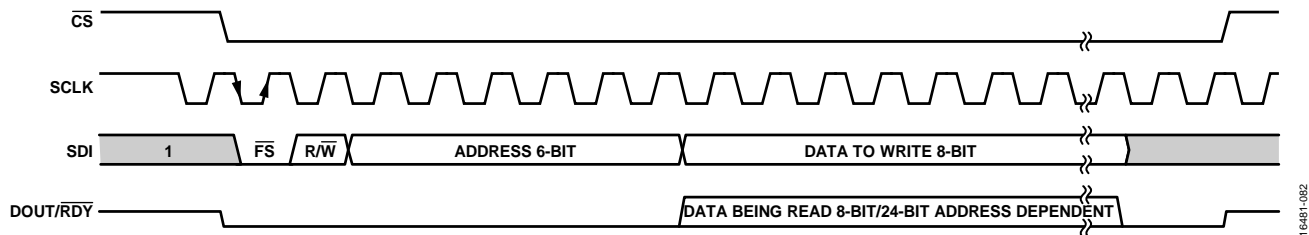

Figure 83. SPI Basic Read/Write Frame
The format of the SPI read or write is shown in Figure 83. The MSB is the first bit in both read and write operations. An active low frame start signal ( $\overline{\text{FS}}$ ) begins the transaction, followed by the R/W bit that determines if the transaction being carried out is to a read (1) or a write (0). The next six bits are used for the address, and the eight bits of data to be written follow. All registers in the AD7768-1 are 8 bits in width, except for the ADC\_DATA register (Register 0x2C), which is 24 bits in width. In the case where  $\overline{\text{CS}}$  is tied low, the last SCLK rising edge completes the SPI transaction and resets the interface. When reading back data with  $\overline{\text{CS}}$  held low, it is recommended that SDI idle high to prevent an accidental reset of the device where SCLK is free running (see the Reset section).